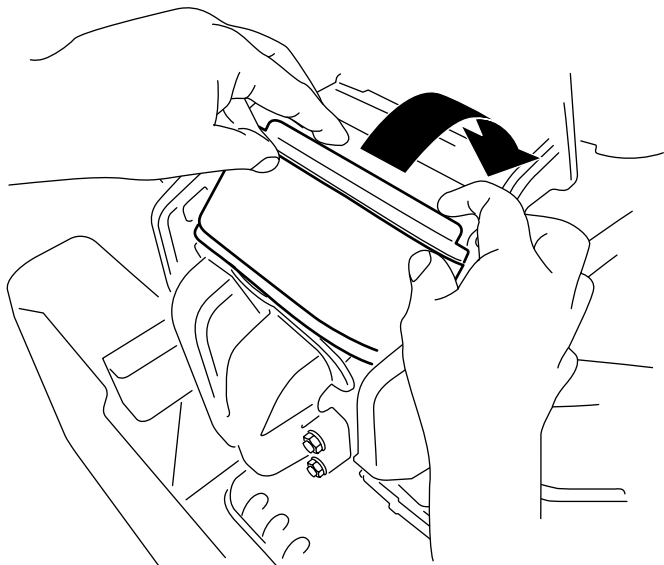

Figure 36
- 3. Rotate the filter down into the chamber and fully seat it against the manifold (Figure 36).